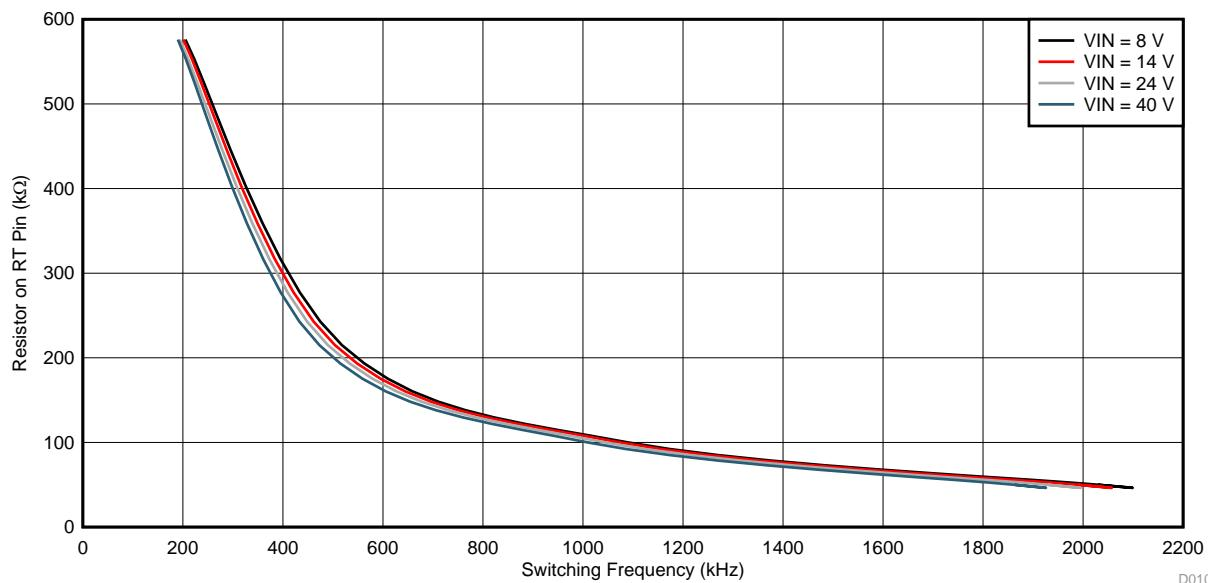

Figure 10. Switching Frequency vs Resistor Value
The oscillator frequency can be set by connecting an external resistor (R8 in *Functional Block Diagram*) to RT pin (pin 6). Figure 10 shows the relation between the resistor value (RT) and switching frequency (f_{sw}). The switching frequency can be set in the range 200 kHz to 2200 kHz. In addition, the switching frequency can be imposed externally by a clock signal (f_{ext}) at the SYNC pin.
Knowing the switching frequency, the value of resistor to be connected at RT pin can be calculated using the graph shown in Figure 10. Consider the oscillator tolerance ($\pm 10\%$) while selecting the external RT resistor. For example if $f_{\text{sw}} = 2.2$ MHz is required, select the RT resistor which corresponds to $f_{\text{sw}} = 2$ MHz in Figure 10 to allow $+10\%$ oscillator tolerance.